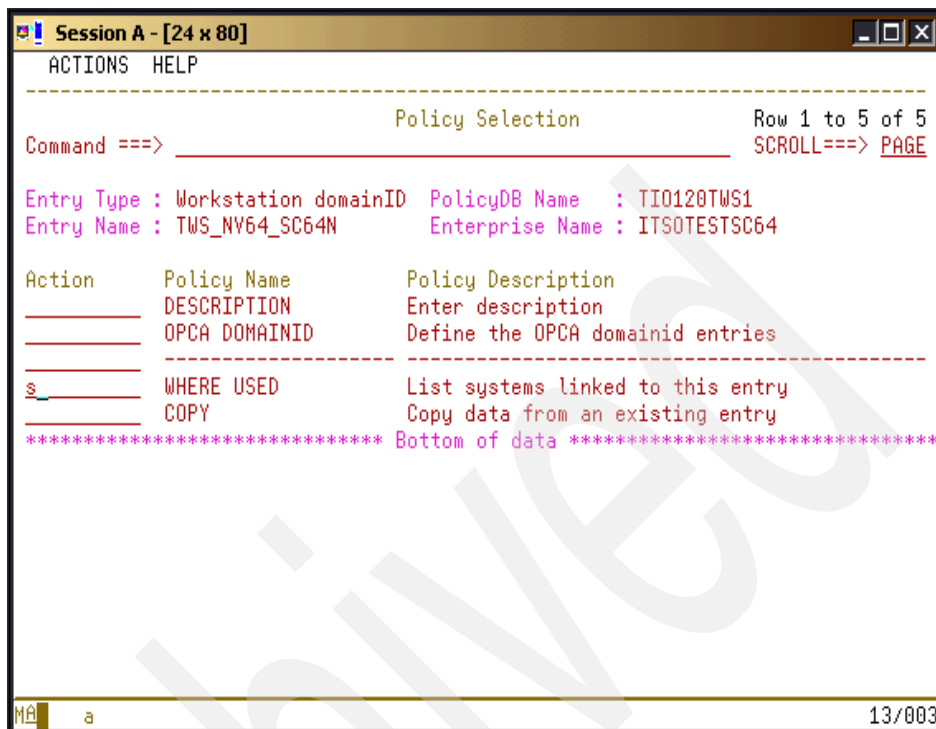

Figure 4-67 Workstation domainID Policy Selection panel
4. Press **PF3** to save your data. The Policy Selection panel that is shown in Figure 4-67 on page 174 displays.